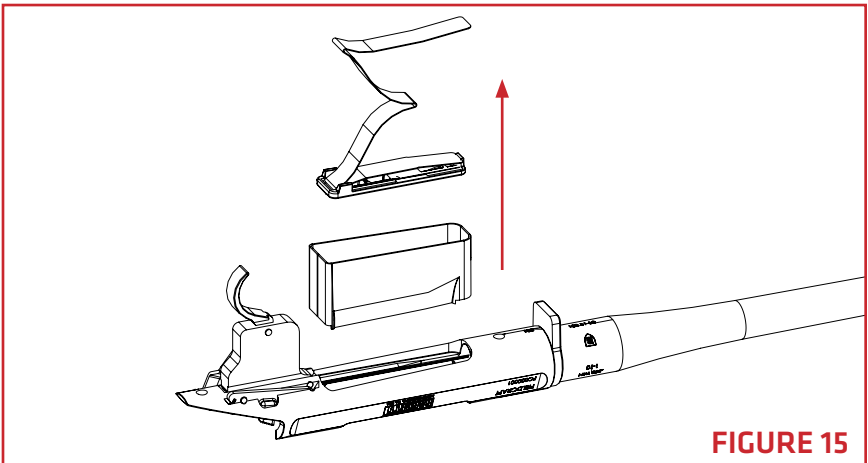

FIGURE 15
- Remove the magazine spring, follower, and body from the underside of the receiver (FIGURE 15).